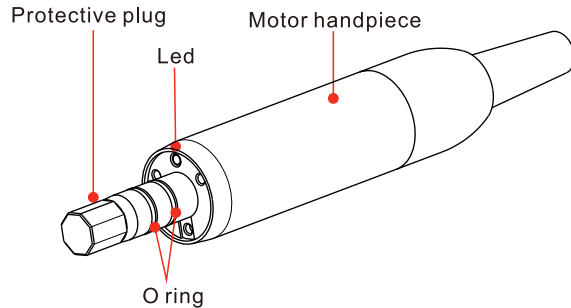

Fig. 3
3.3 The motor structure description (Fig. 3)